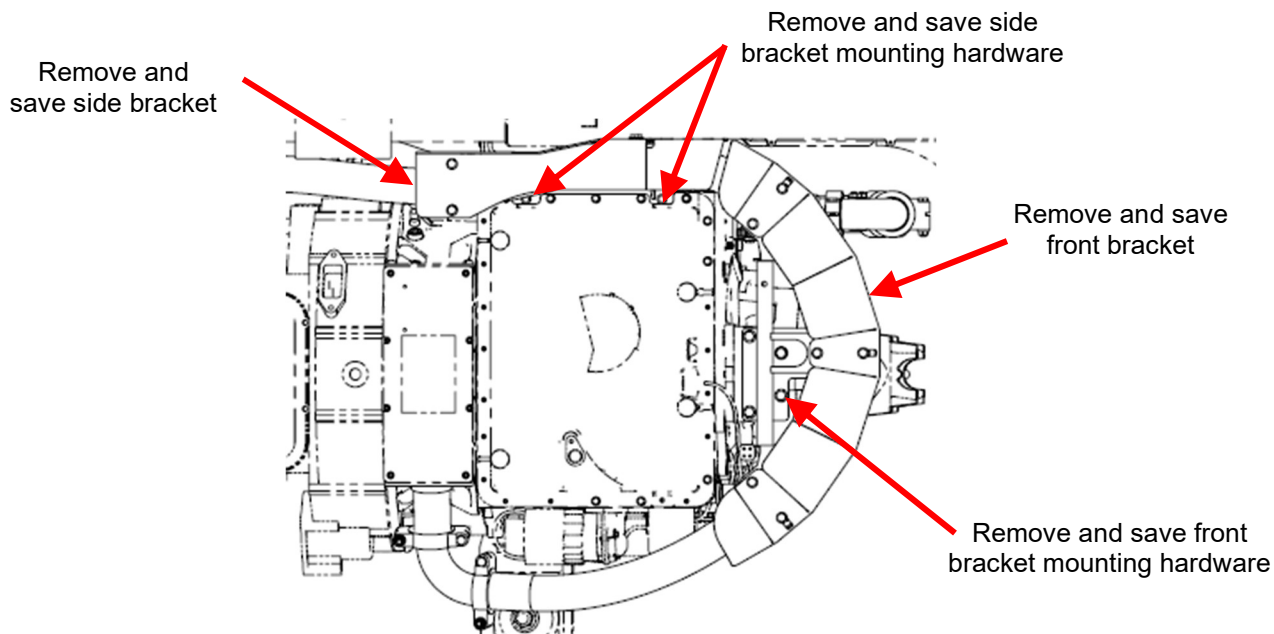

Figure 1: HV Cable Support Bracket Mounting Bolt Locations
4. Removal of the HV cable brackets may be required, this will allow room to access the ISG mounting bolts number 10 and 5, see Figure 1 for bracket bolt locations.